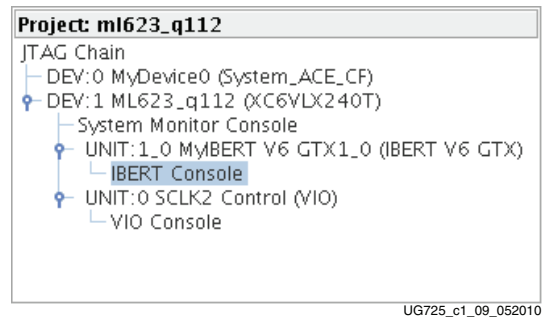

Figure 1-9: Project Panel
- When the project panel opens, verify the JTAG chain shows the devices listed in Figure 1-9.